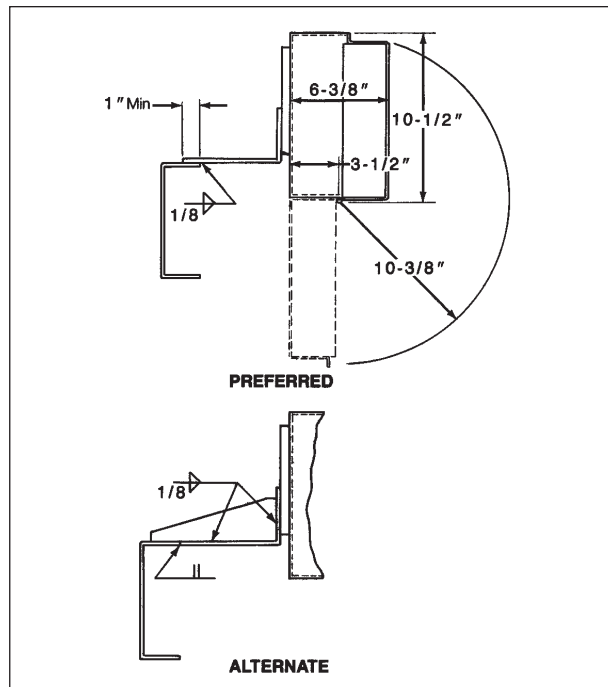

Figure 15
11. The electrical enclosure is typically mounted on the inside of the truck over the gear reducer. The connecting bracket may be mounted in any of 3 vertical locations on the enclosure bracket when oriented as shown in Figure 23. It may also be rotated 180° (outstanding leg at top) giving 3 additional positions. The enclosure bracket may also be adjusted horizontally on the enclosure. The connecting bracket may be welded to a truck or to the girder. If the bracket rests on the supporting member, a 1" minimum overlap is required. Weld as shown in Figure 15. If the bracket is to be supported by weld at the toe only, a stiffener plate must be furnished by the crane fabricator. Weld as shown in the alternate view in Figure 15.
5. The electrical enclosure is typically mounted on the inside of the truck over the gear reducer. The connecting bracket may be mounted in any of 3 vertical locations on the enclosure bracket when oriented as shown. It may also be rotated 180° (outstanding leg at top) giving 3 additional positions. The enclosure bracket may also be adjusted horizontally on the enclosure. The connecting bracket may be welded to a truck or to the girder. If the bracket rests on the supporting member, a 1" minimum overlap is required. Weld as shown in Figure 15. If the bracket is to be supported by weld at the toe only, a stiffener plate must be furnished by the crane bridge fabricator. Weld as shown in the alternate view in Figure 15.